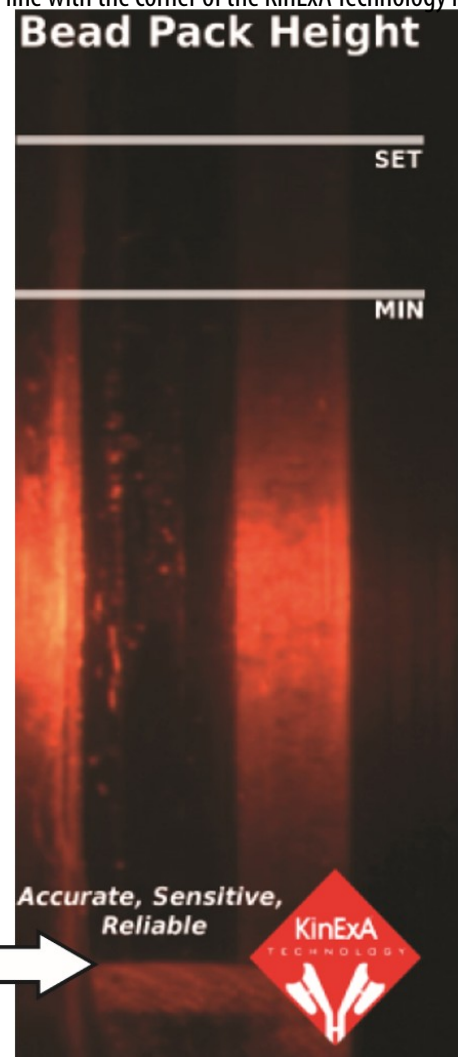

Figure 5: Camera image of a properly aligned Flow Cell.
- Look at the camera image and fine tune the alignment so that the top of the filter is in line with the corner of the KinExA Technology logo. (Figure 5)